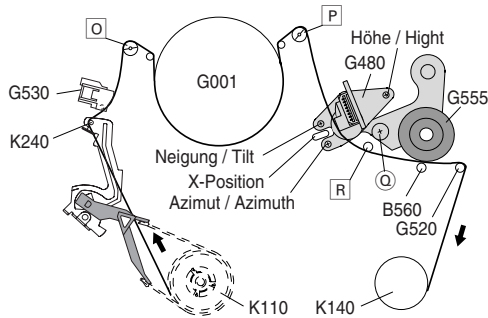

Fig. 21
- Re-adjust the reverse rollers  $\square$  /  $\square$  (Fig. 21) if necessary so that the tape does not curl when running over them.
- Adjust the tilt of the combi head (G480) using the "Tilt" screw (Fig. 21) so that the tape just touches the lower edge of the tape guide  $\square$  (Fig. 21 / 22). The lower edge of the tape must not curl.
- Using the height adjustment screw ("Height", Fig. 21), adjust for maximum output voltage.
- Using the azimuth adjustment screw ("Azimuth", Fig. 21), adjust for maximum output voltage.
- Undo the screw  $\odot$  (Fig. 21).
- Re-tighten the screw  $\odot$  (Fig. 21).
- Adjust the reverse rollers  $\square$  /  $\square$  (Fig. 21) so that the FM envelopes keep the amplitude limit value  $b/a \geq 0.63$  (Fig. 23) at the tape take-up side and the tape supply side.
- Adjust the reverse rollers  $\square$  /  $\square$  (Fig. 21) so that the amplitude of the FM envelopes is as flat as possible.
turn the left reverse roller  $\square$  (Fig. 21) clockwise.
turn the right reverse roller  $\square$  (Fig. 21) clockwise.
turn the left reverse roller  $\square$  (Fig. 21) counterclockwise.
turn the right reverse roller  $\square$  (Fig. 21) counterclockwise.
- Press the "Reverse picture search" button then after 15 seconds the "Play" button. After further 3 seconds the amplitude of the FM envelopes must have reached its maximum and must be flat. If necessary re-adjust the reverse rollers  $\square$  /  $\square$  (Fig. 21).